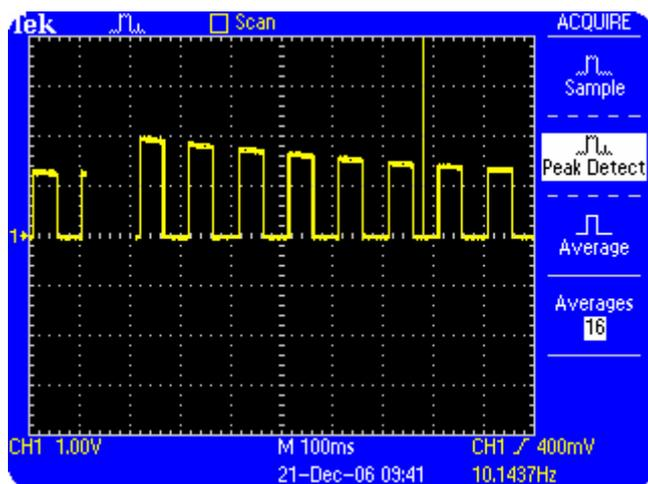

Figure 6.2: A noisy variable amplitude signal with glitches acquired with the Peak detect and scan display modes
10. You will see a waveform similar to that shown in Figure 6.2.